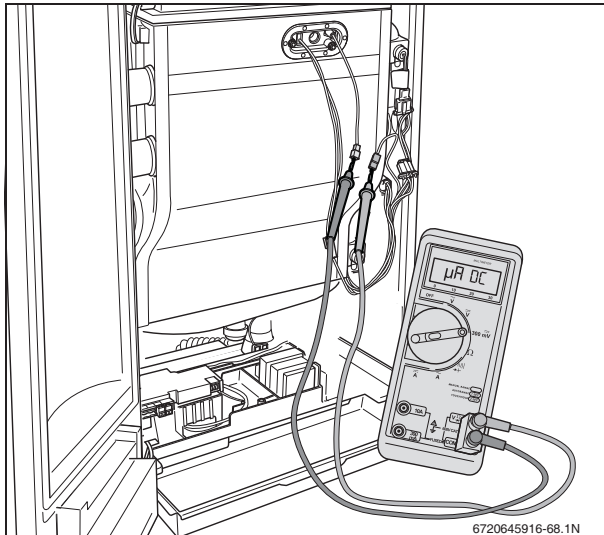

Fig. 68 Measuring the ionization current
- Connect the multi meter in series (fig. 68). Select the μA DC range on the multi meter. The multi meter must have a resolution of at least 1 μA .